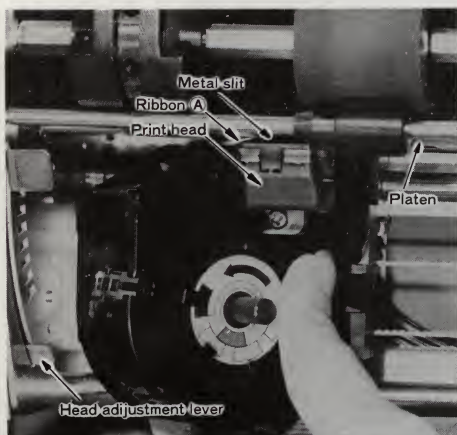
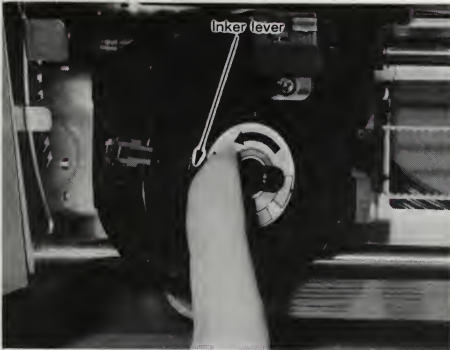

Figure 13.
Figure 15.
- (1) Unwrap the ribbon cartridge. Take away the round-shaped foam rubber which is inserted into the cartridge knob. Then turn the inker levers 'ON' by pushing them towards the inside (Refer to Figure 15.).
- (2) Turn the cartridge knob in the direction of the arrow to draw the ribbon taut.
- (3) Move the head adjustment lever away from you. This moves the printhead away from the platen.
- (4) Insert the ribbon cartridge as shown in Figure 13. with the cartridge being held at an angle and put into position from the right side with the (A) portion of the ribbon sliding in between THE PRINTHEAD AND THE METAL SLIT.
- (5) Push on the lower right of the cartridge with the index finger (as shown in Figure 13.). If a 'click' is not heard that the cartridge has not positioned properly turn the cartridge a little more in the direction of the arrow and press again. The cartridge will eventually click into place. After it is in place, turn the cartridge knob again in the direction of the arrow, to draw the ribbon taut.
- (6) Return the head adjustment lever to its original position. (Refer
- (7) If a given color is not going to be used, the transfer of ink from that inker to the ribbon can be turned off by pushing that inker lever (Figure 15.) towards the outside of the cartridge.